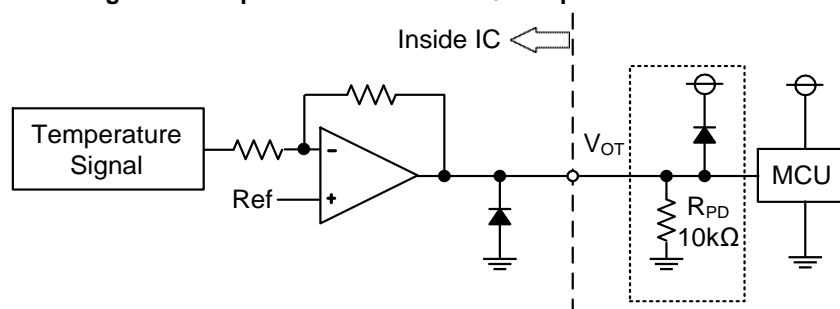

Figure 4. VOT Output Circuit
- The IPM does not shutdown IGBTs and output fault signal automatically when temperature rises excessively. When temperature exceeds the protective level that the user defined, the controller (MCU) should stop the IPM. Temperature of $LVIC$ vs. V_{OT} output characteristics is described in Figure 4.
- (1) If the control GND is connected with the power GND by common broad pattern, it may cause malfunction by power GND fluctuation. It is recommended to connect the control GND and power GND at a single point (N1), near the terminal of the shunt resistor.
- (2) A zener diode D1 (24V/1W) is recommended between each pair of control supply pins to prevent surge destruction.
- (3) Prevention of surge destruction can further be improved by placing the bus capacitor as close to pins P and N1 as possible. Generally a 0.1-0.22 μ F snubber capacitor C3 between the P-N1 terminals is recommended.
- (4) Selection of the R1*C4 filter components for short-circuit protection is recommended to have tight tolerance, and is temperature-compensated type. The R1*C4 time constant should be set such that SC current is shut down within 2 μ s; (typically 1.5-2 μ s). R1 and C4 should be placed as close as possible to the C_{SC} pin. SC interrupting time may vary with layout patterns and components selections, therefore thorough evaluation in the system is necessary.
- (5) Tight tolerance, and temperature-compensated components are also recommended when selecting the R2*C5 filter for V_{OT}. The R2*C5 time constant should be set such that V_{OT} is immune to noise. Recommended values of R2 and C5 are 2k Ω and 10nF.
- (6) To prevent malfunction, traces A, B, and C should be as short as possible.
- (7) It is recommended that all capacitors are mounted as close to the IPM as possible. (C1: electrolytic type with good temperature and frequency characteristics. C2: ceramic type with 0.1-2 μ F, good temperature, frequency and DC bias characteristics.)
- (8) Input drives are active-high. There is a minimum 3.5k Ω pull-down resistor in the input circuit of IC. To prevent malfunction, the layout to each input should be as short as possible. When using RC coupling circuit, make sure the input signal levels meet the required turn-on and turn-off threshold voltages.
- (9) V_{CF} output is open drain type. It should be pulled up to MCU or control power supply ($\max = 5 \pm 0.5V$), limiting the current (I_{FO}) to no more than 1mA. I_{FO} is estimated roughly by the formula of control power supply voltage divided by pull-up resistor R3. For example, if control supply is 5V, a 10k Ω (over 5k Ω) pull-up resistor R3 is recommended.
- (10) If only a pull-up resistor R3 of 10k Ω connected to V_{CF} pin, the fault output pulse width is fixed at minimum 20 μs . If a capacitor C6 is connected with a pull-up resistor R3, the fault output pulse width can be controlled according to the resistor value and capacitor value. For the design guide, please refer to the Figure 4.
- (11) Direct drive of the IPM from the MCU is possible without having to use opto-coupler or isolation transformer.
- (12) The IPM may malfunction and erroneous operations may occur if high frequency noise is superimposed to the supply line. To avoid such problems, line ripple voltage is recommended to have $dV/dt \leq \pm 1V/\mu s$, and $V_{ripple} \leq 2V_{p-p}$.
- (13) It is not recommended to use the IPM to drive the same load in parallel with another IPM or inverter types.